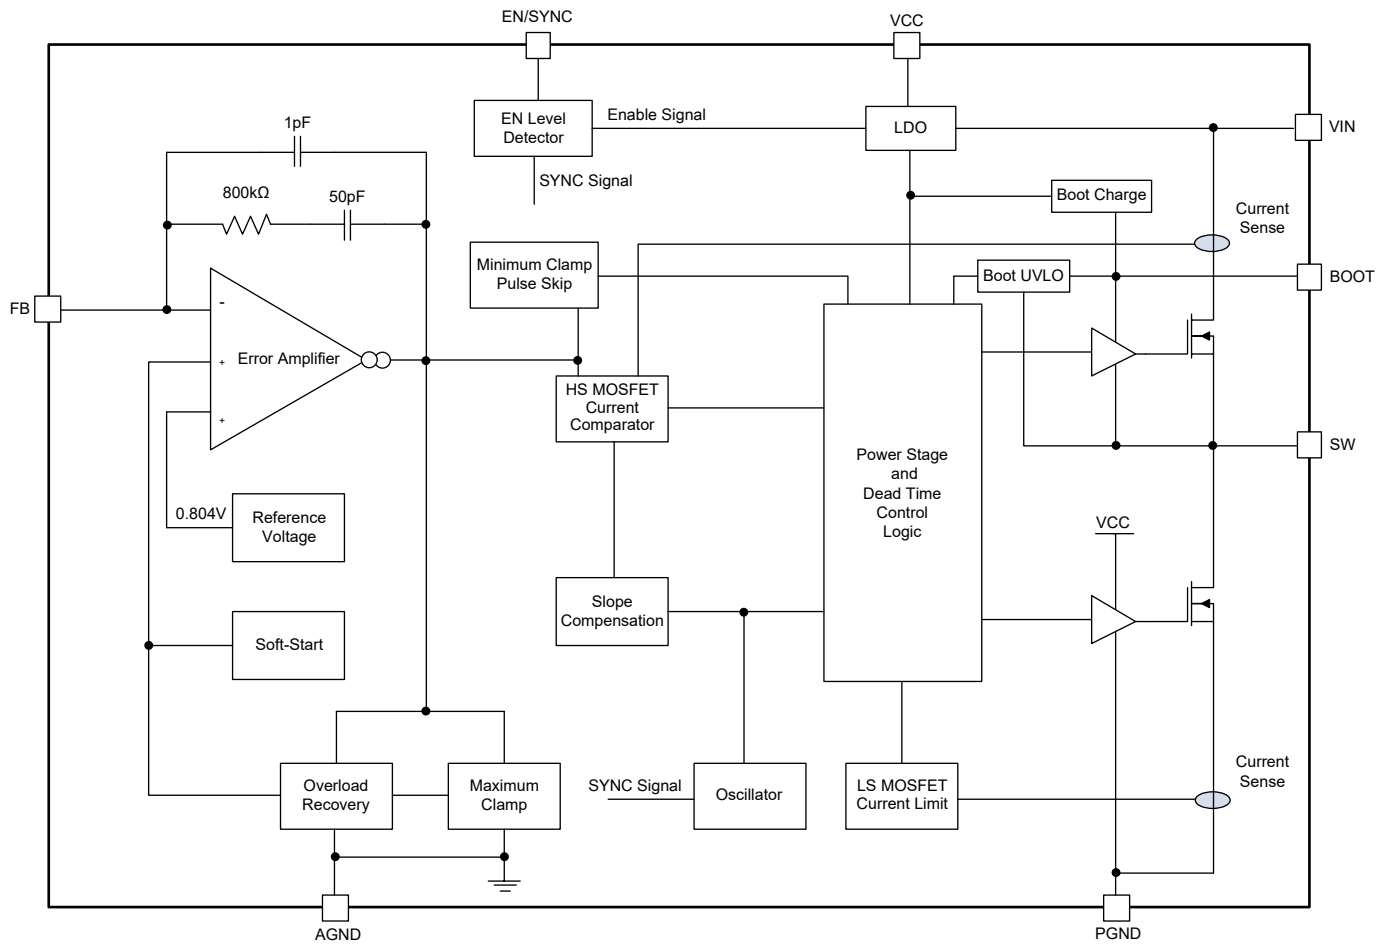
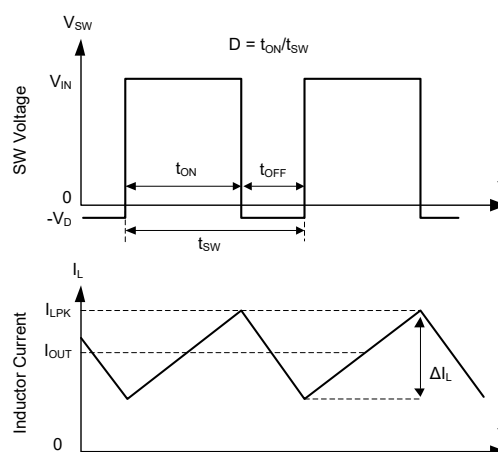
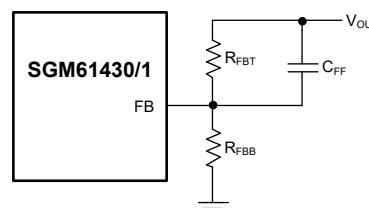

Figure 2. Block Diagram
Figure 3. Converter Switching Waveforms in CCM
Figure 8. Improving Loop Compensation by Feed-Forward Capacitor
The Functional Block Diagram and basic waveforms of these Buck synchronous converters are shown in Figure 2 and Figure 3. The N-MOSFETs are used for high-side (HS) and low-side (LS) (synchronous rectifier) switches. The HS duty cycle ($D = t_{ON}/t_{SW}$) is controlled in closed loop to regulate and maintain the output voltage at a constant level. The switching period is $t_{SW} = 1/f_{SW}$, and the HS on-time is t_{ON} . When HS is turned on, the SW node voltage sharply rises towards V_{IN} , and the inductor current (I_L) starts ramping up with $(V_{IN} - V_{OUT})/L$ slope. When HS is turned off, the LS is turned on after a very short dead time to avoid shoot-through, and I_L ramps down with $-V_{OUT}/L$ slope. When the inductor current is continuous (either due to sufficient load or FPWM), the output voltage is proportional to the input voltage and duty cycle ($V_{OUT} = D \times V_{IN}$) if component parasitics are ignored.
The SGM61430 and SGM61431 are internally compensated (see Figure 2) and are stable over the entire f_{SW} and V_{OUT} operating range. However, the phase margin can be low for some ranges of V_{OUT} when low ESR ceramic capacitors are used in the output. In such cases, it is recommended to use a feed-forward capacitor (C_{FF}) in parallel with the R_{FBB} to improve the transient response as shown in Figure 8.
The HS switch over-current protection is natural in peak current mode control. In each cycle the HS current sensing starts a short time (blanking time) after it is turned on. The slope compensation ramp is deducted from the EA (Error Amplifier) output to avoid sub harmonic oscillations and the result is compared to the HS current to determine the HS turn-off time (on-time). See Figure 2 for details. Before comparison, the EA output is clamped to a fixed maximum threshold (I_{HS_LIMIT}) to limit the current. So, the peak current limit of the high-side switch is not affected by the slope compensation and remains constant over the full duty cycle range.
An external resistor divider is used to set the output voltage as shown in Figure 8. Use Equation 13 to set V_{OUT}: